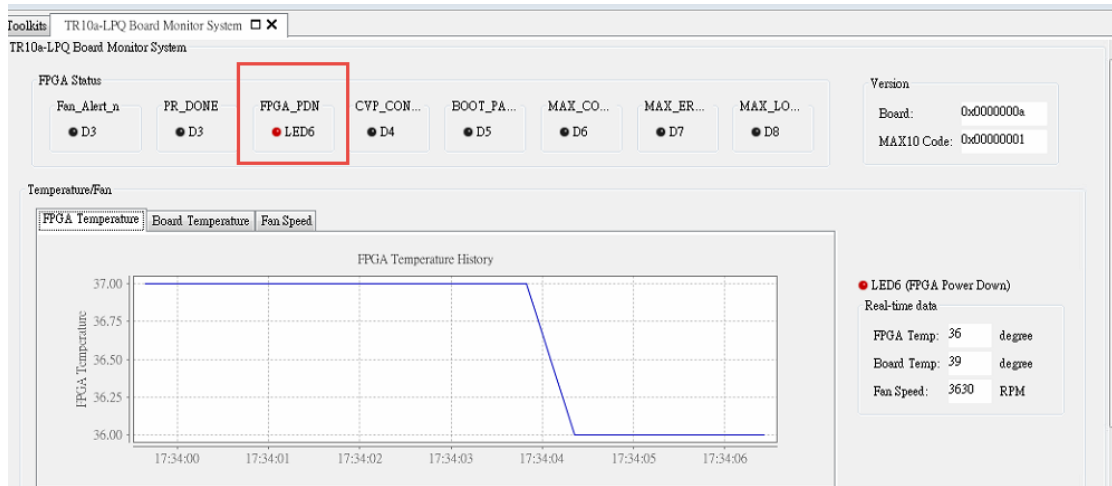

Figure 8-10 FPGA_PDN LED Status
- **FPGA Power Down:** It is a board protection function provided by the system controller. When the TR10a-LPQ board ambient temperature or FPGA temperature is over 95 degree set by the system, the FPGA power will be shut down to protect the board. In this case, the FPGA_PDN LED will be light on as shown in **Figure 8-10**. Users need to press the MAX_RTS button or restart the power to remove this status.